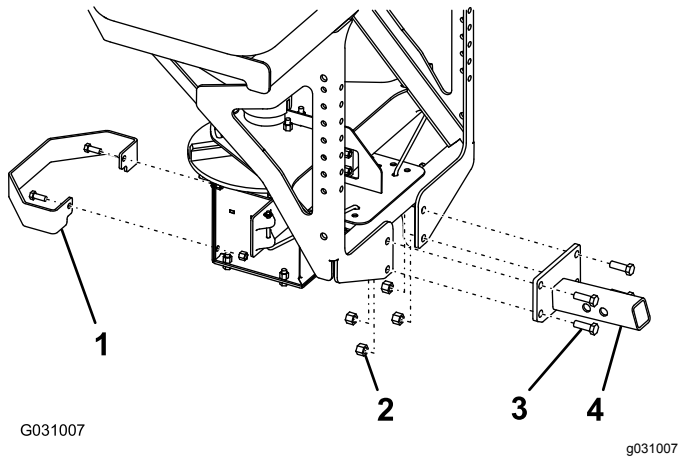

Figure 5
1. Mount the slide-in attachment to the spreader using 4 bolts (1/2 inch) and locknuts (1/2 inch) and torque the bolts to 76 Nm (56 ft-lb) as shown in Figure 5.
2. Mount the spinner guard to the spreader using the 2 existing bolts (3/8 inch) and locknuts (3/8 inch) and torque the bolts to 27 Nm (19.7 ft-lb) as shown in Figure 5.